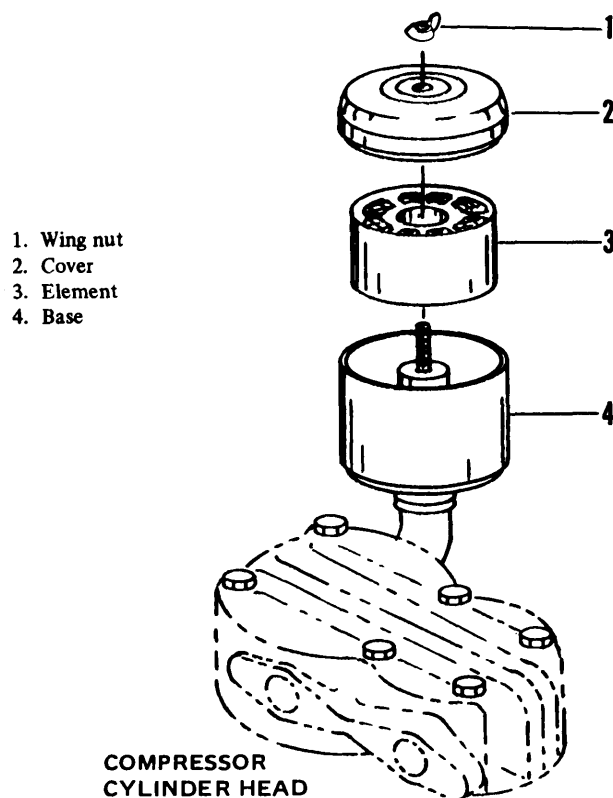

Figure 3-1. Compressor air intake filter service.
- a. Remove wing nut (1, fig 3-1).
- b. Remove cover (2).
- c. Lift element (3) out of base (4).
- d. Clean element (3) by washing in warm water and low-sudsing household type detergent. Rinse thoroughly in clean water and air dry. Wipe out inside of filter base (4) and inside of cover (2) with a clean lint-free cloth.
- e. Install clean element (3) in base (4).
- f. Install cover (2) and secure with wing nut (1).